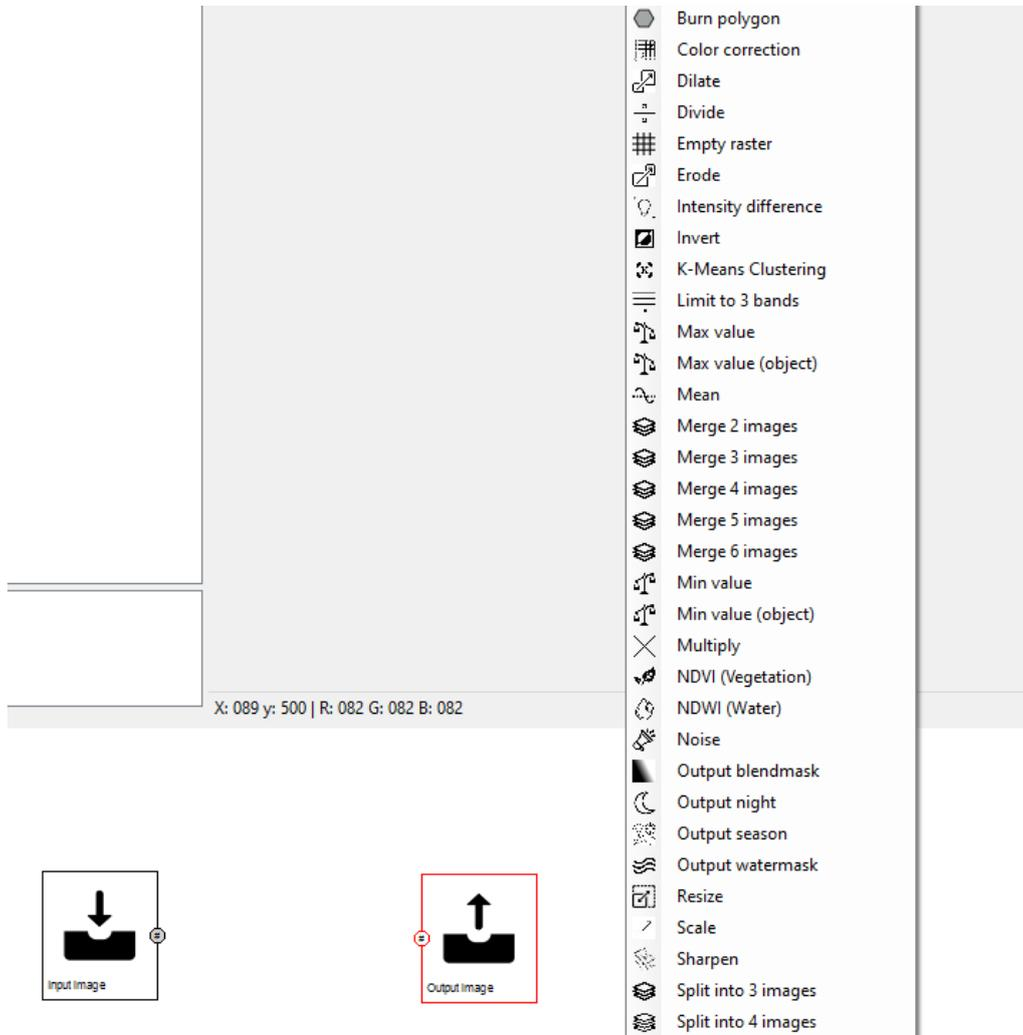

Figure 6.3: Adding a new step to the texture filter, the menu appears on a right click
- If you right click in the picture box you get a menu that allows you to add new steps to the texture filter flow (see Figure 6.3).